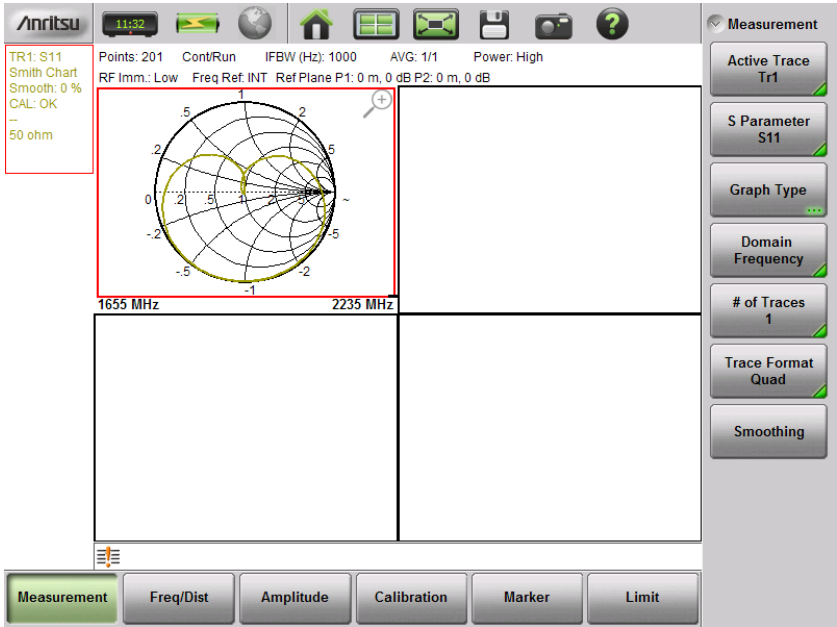

Figure 6-7. Format = Quad, Traces = 1
- Now return to the default display of Trace Format = Quad. Change the Number of Traces from 4 to 1. Note how the top left quadrant is filled, while the other three quadrants have no data. Refer to Figure 6-7.